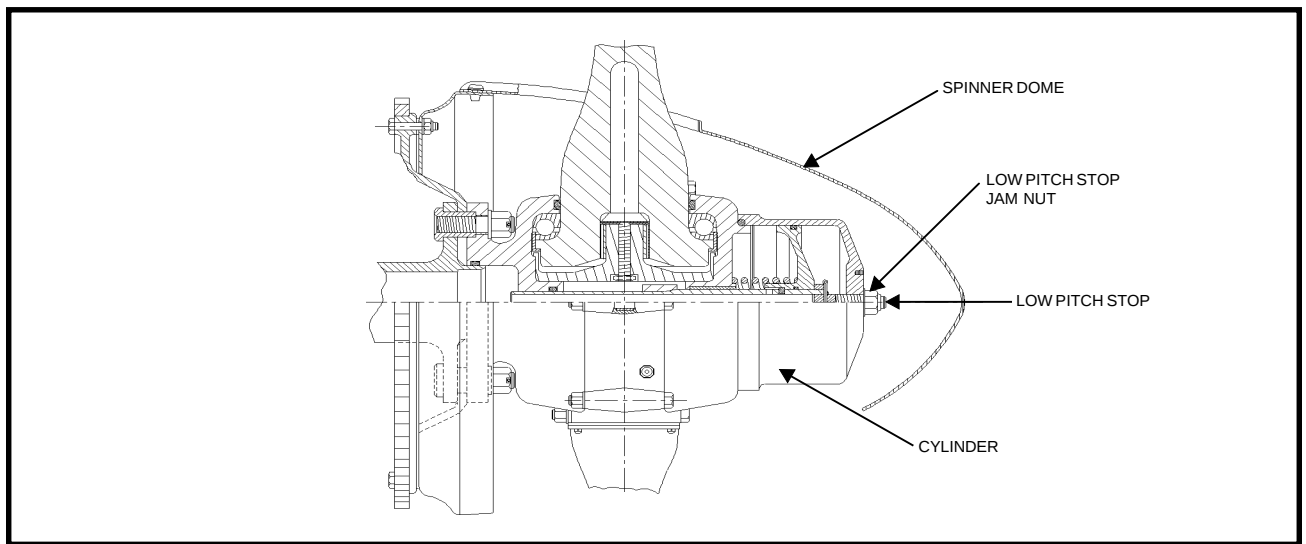

Figure 1
- (1) Remove spinner dome.
- (2) Loosen low pitch stop jam nut (see Figure 1)
- (3) Turn the low pitch stop screw in 2-1/3 turns. This will increase the low pitch angle from 10.5° to 13.8°.
- (4) Tighten jam nut and torque to 15 ft/lbs (+/-10%).